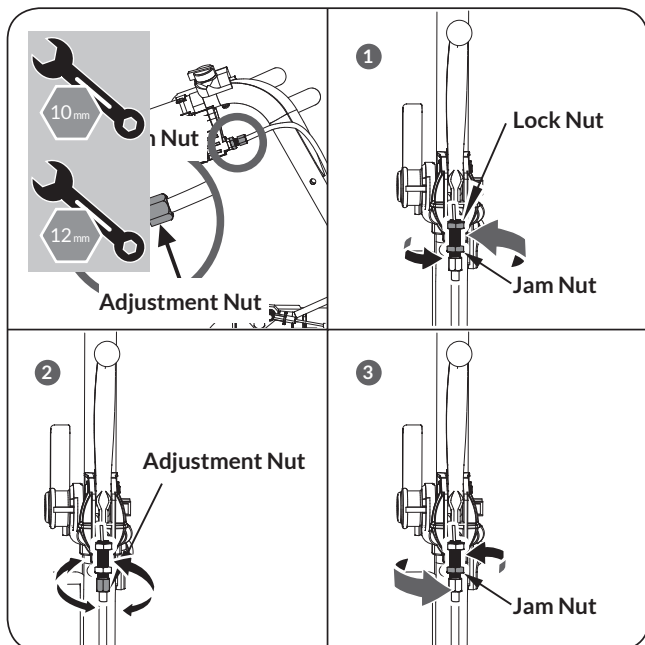

**Figure 10a**
1. Loosen the jam nut by turning it counter clockwise with 10mm wrench. (see **Figure 10a, Illustration 1**)
2. Tighten or loosen the cable by turning the cable adjustment nut clockwise or counter clockwise with 10mm wrench until you have reached your required tightness. (see **Figure 10a, Illustration 2**)
3. Once tightness is set, return the jam nut against the handle to hold the cable in place. (see **Figure 10a, Illustration 3**)